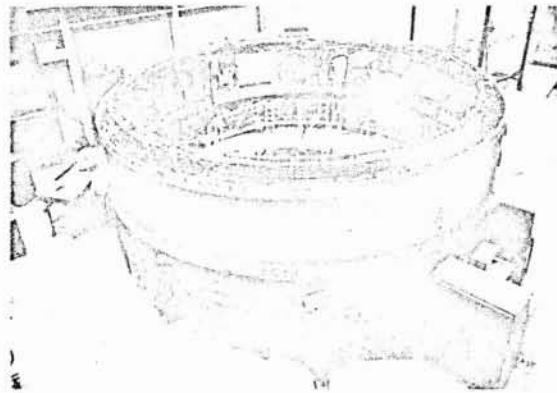

FIGURE 8. INSTRUMENT UNIT
The Instrument Unit (IU), shown in Figure 8, is manufactured by IBM at Huntsville, and is flown to KSC by Super Guppy.